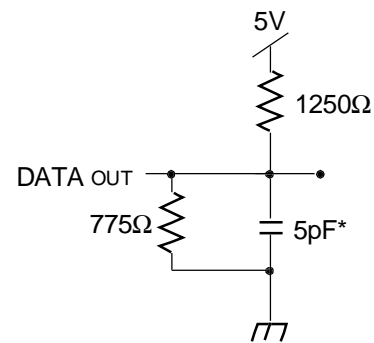

Figure 2. Output Test Load
1. Transition is measured $\pm 500\text{mV}$ from Low or High-impedance voltage Output Test Load (Figure 2).
1. Transition is measured $\pm 500\text{mV}$ from Low or High-impedance voltage with Output Test Load (Figure 2). This parameter is guaranteed by device characterization but is not production tested.
7. This parameter is determined to be device characterization, but is not production tested. Transition is measured $\pm 500\text{mV}$ from steady state with the Output Test Load (Figure 2).